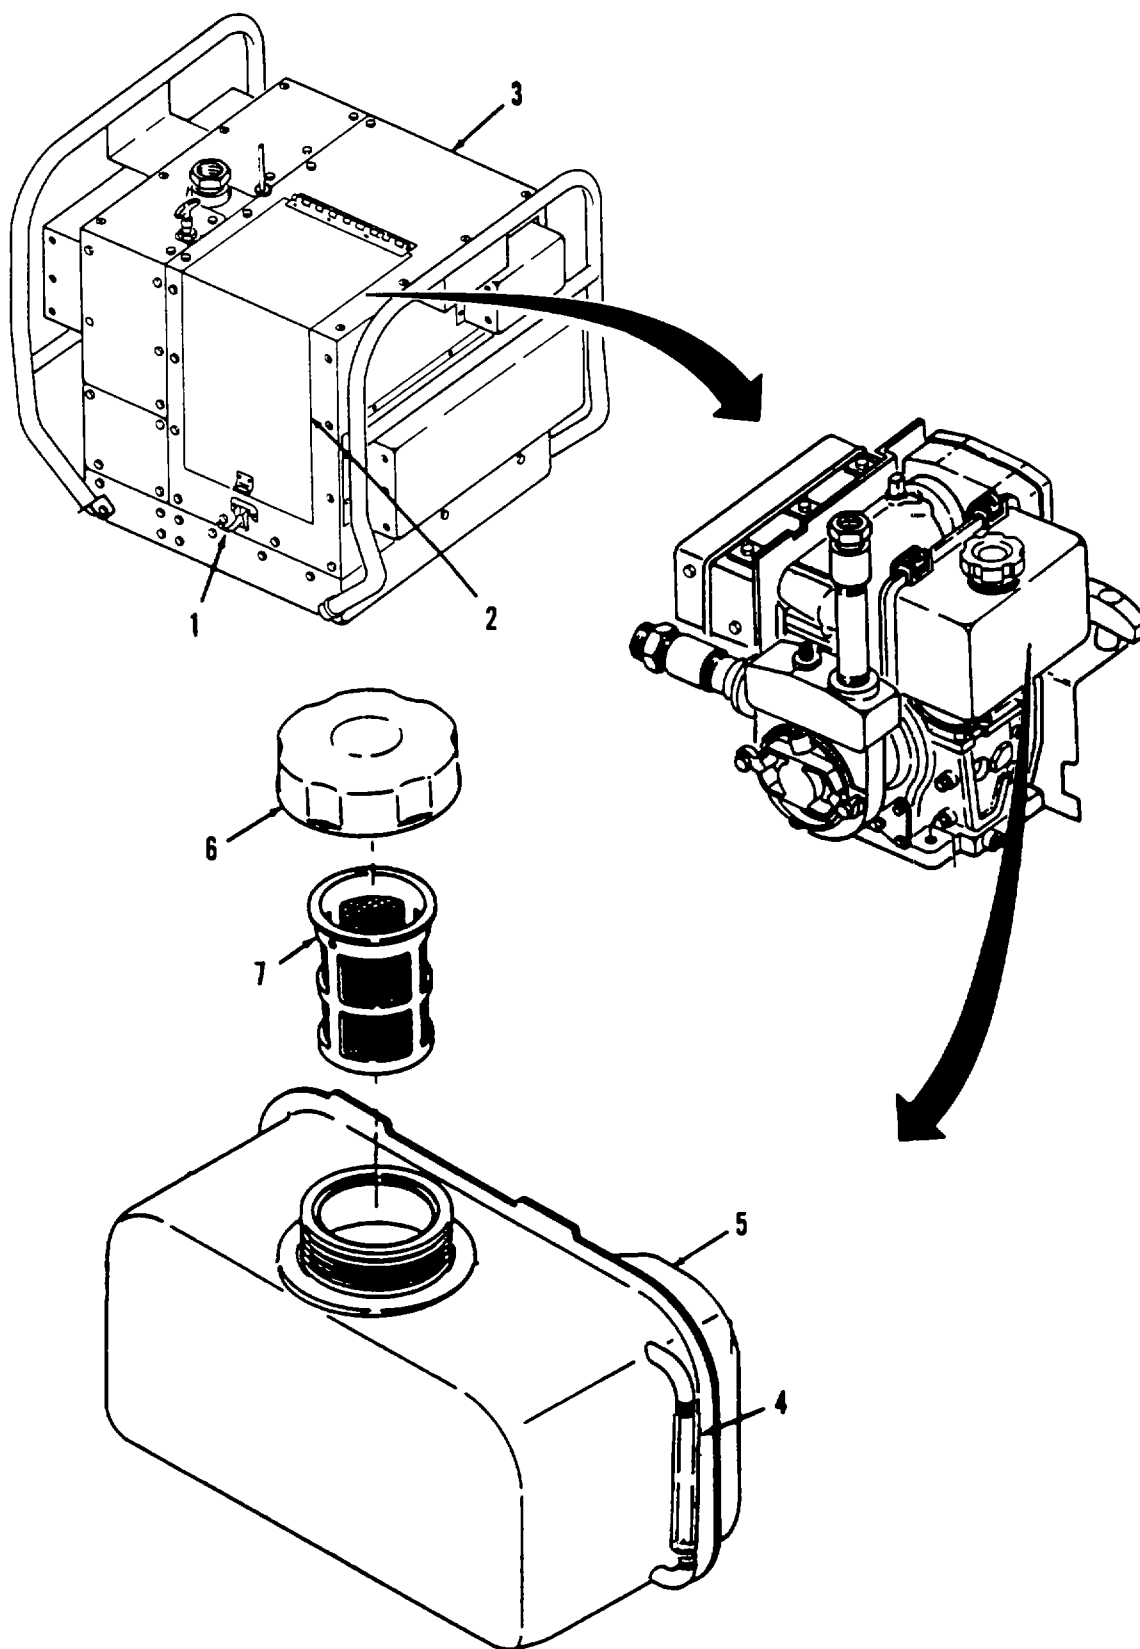

Figure 2-4. Refueling DED Pump Assembly.
b. Filling the Fuel Tank. Before starting the DED pump assembly, the fuel tank must be filled with fuel. To fill the fuel tank, perform the following procedures. (Refer to Figure 2-4.)
(1) Disengage the latch (1) on the access panel (2) of the enclosure assembly (3) and open access cover.
(2) Check the pipe fuel gauge (4) on the side of the fuel tank (5) to insure that fuel tank is filled with fuel. If fuel tank is not full, perform steps (3) through (6) to fill the tank.